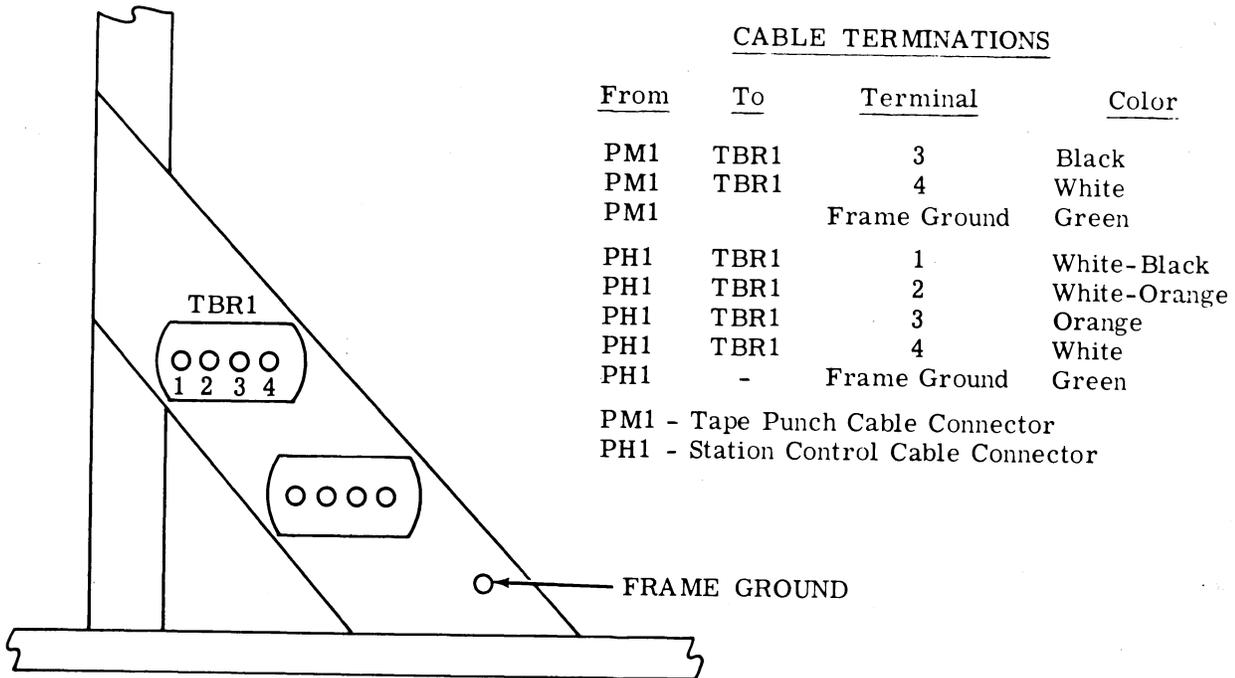

Figure 12 - Cable Terminations
2.21 Screw the appropriate leads (identified in Figure 12) into terminal board TBR1 and to the frame ground.